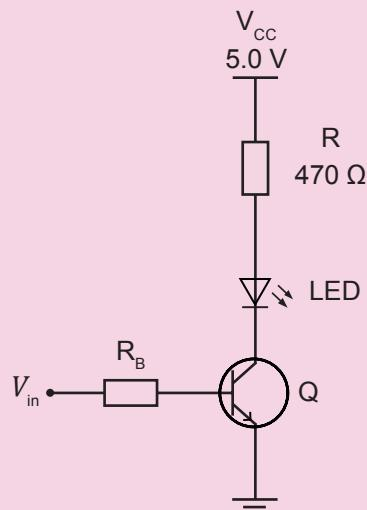

Figure 9.19
1. In the circuit shown in Figure 9.19, a BJT is used to switch an LED on and off. Determine a suitable value of R_B if the LED is to be switched on by an input signal of 3.3 V.